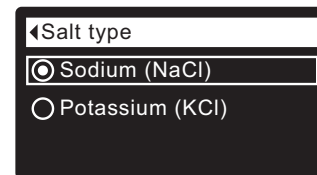

FIG. 46
5. Press the SELECT (O) button to display the Salt type menu (See Figure 46).
6. If the desired salt type already has a black dot next to it (See Figure 46), go to Step 7. Otherwise, press the conditioner's DOWN (▼) or UP (▲) buttons to scroll to the other salt type, then press SELECT (O) to choose it.
7. Press the SELECT (O) button. The display will go back to the Salt settings menu.